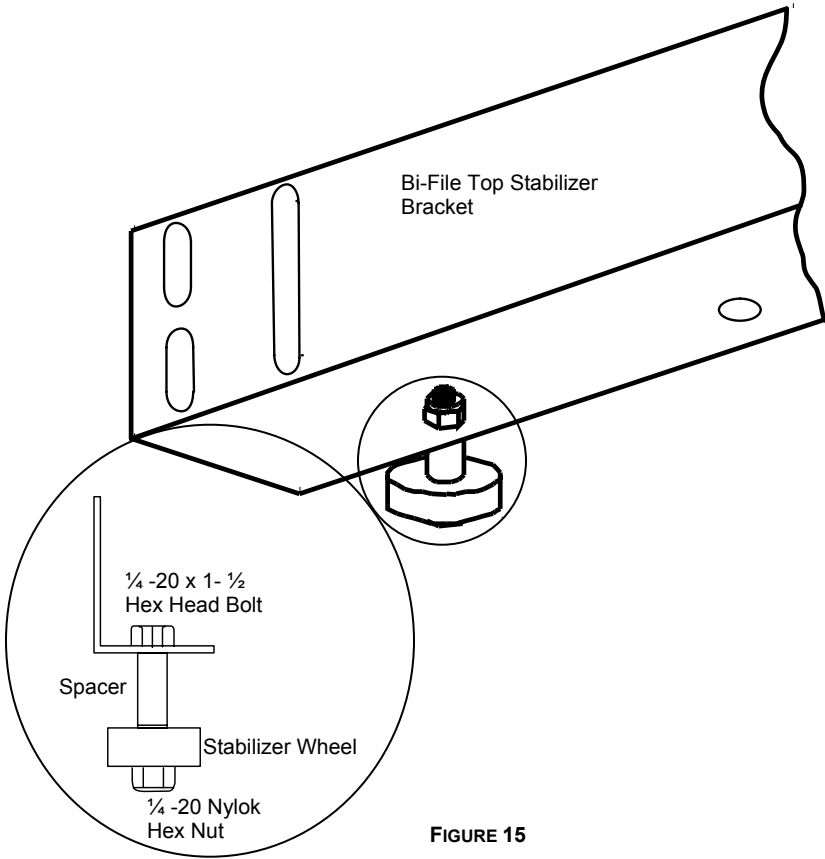

FIGURE 15
STEP 1 Assemble the Stabilizer Wheel to the Bi-File Top Stabilizer Bracket at both ends of this bracket, using the outer holes. Use the following hardware: two (2) 1/4 -20 x 1- 1/2 hex head bolts, two (2) 1/4 -20 nylok hex nuts, two (2) Spacers, and two (2) Stabilizer Wheels. **See Figure 15.**